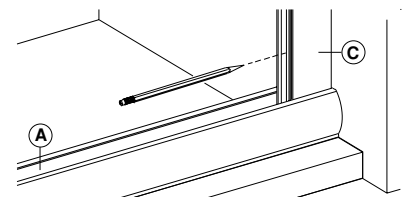
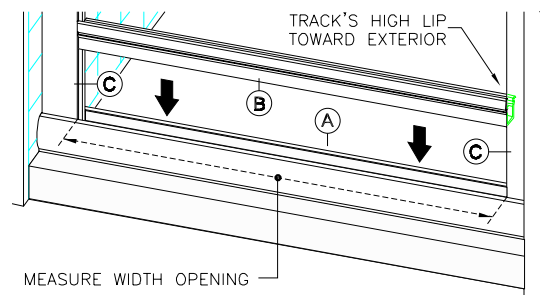

figure 2
figure 3
3. Place Wall Jamb (C) into ends of Sill (A) and up against shower walls as shown in figure 2. Plumb the Jamb, then pencil mark their installation holes locations on the shower walls (3 per jamb). Remove Wall Jamb. Using a 3/16" masonry bit, drill 1" deep installation holes in locations previously marked. Insert Plastic Screw Anchors (N) into holes.
4. Reposition Wall Jamb (C) as before and secure Jamb to walls using the six(6) 1-1/4" Installation Screws provided (3 per jamb).
5. Before proceeding, determine which side you want your door to strike (left or right, your choice). Now measure the opening width between the two Wall Jamb (C) as shown in figure 3 and trim the **strike side end** of Sill Guide Track (B) to measurement obtained (**always trim the strike side end, never the hinge side end**). With Guide Track's **high lip toward exterior**, snap Track (B) into place as shown. See also exploded view - sheet 2.